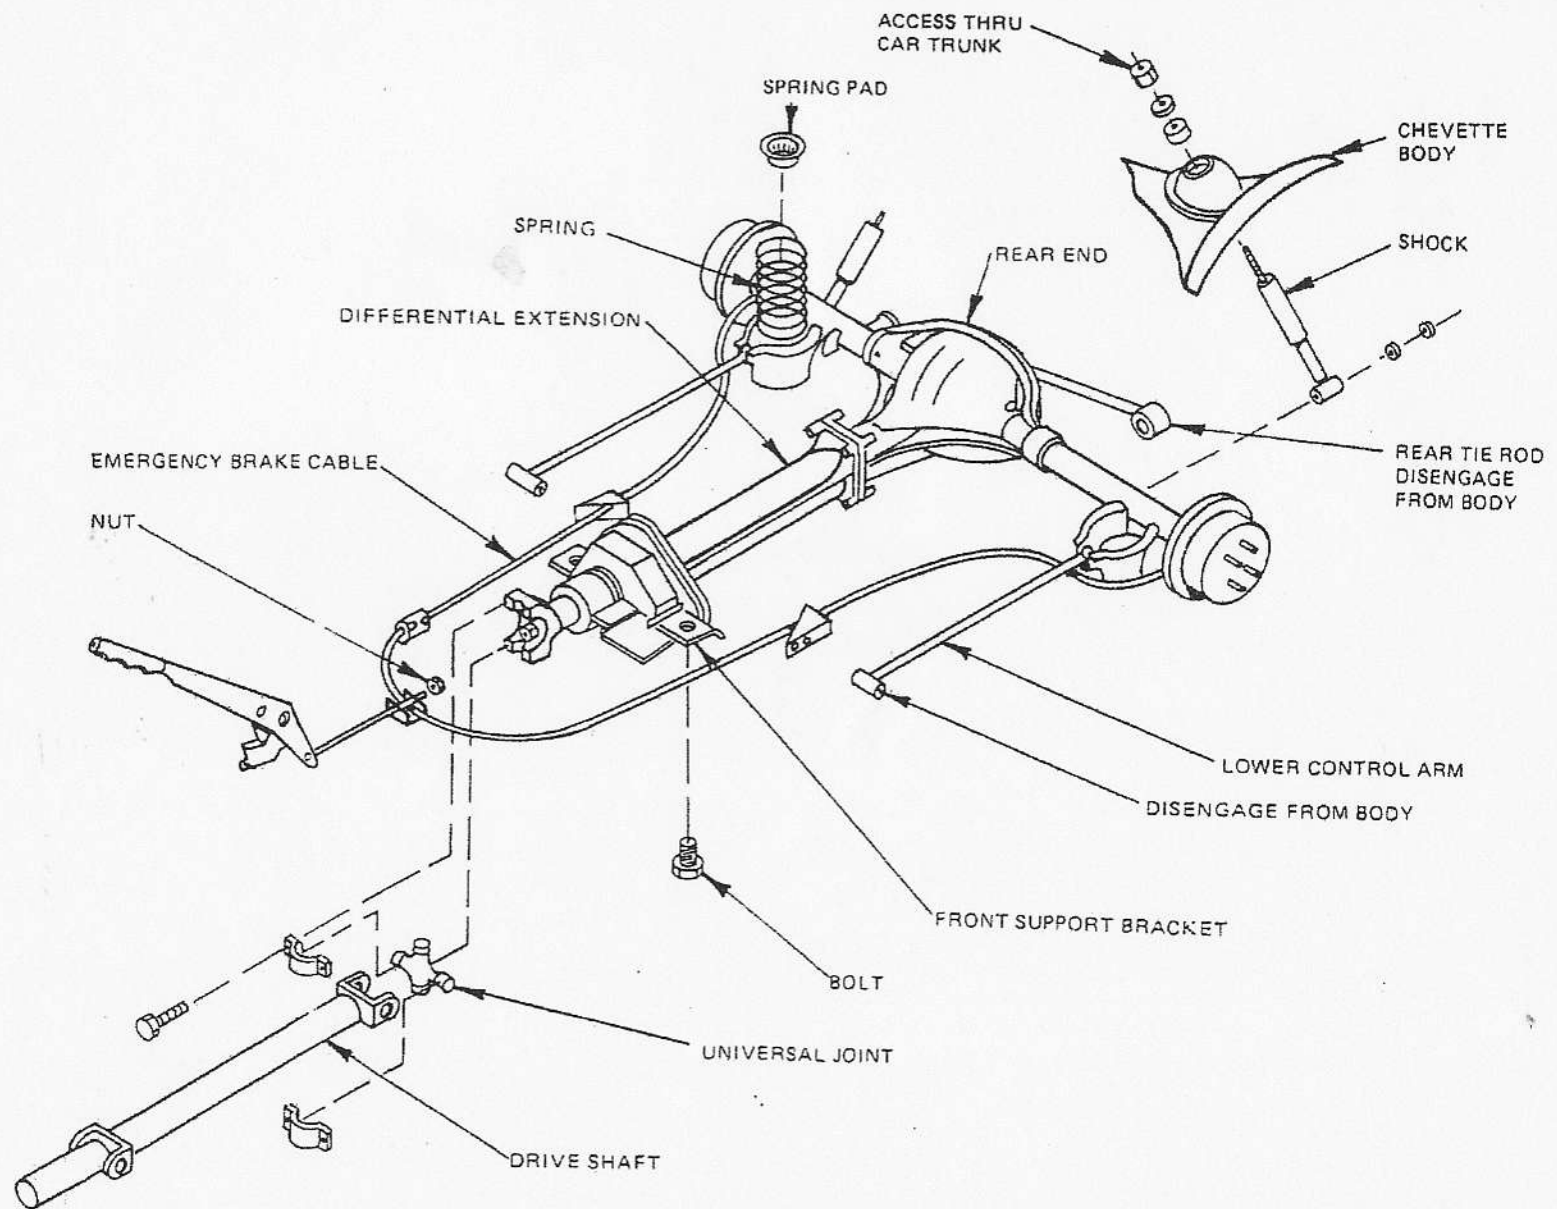

Figure 3
- ☐ Place floor jack under differential and apply pressure. Disconnect brake fitting where flexible hose attaches to body. Chisel off bracket for use on the TD. Disconnect drive shaft at universal joint. (Figure 3) Remove emergency cable spring and unfasten the nut holding cable to handle.
- ☐ Unbolt tops of shocks from trunk area of car (Figure 3) and from axle and remove. Lower differential to ground. Save all spring mounting pads.